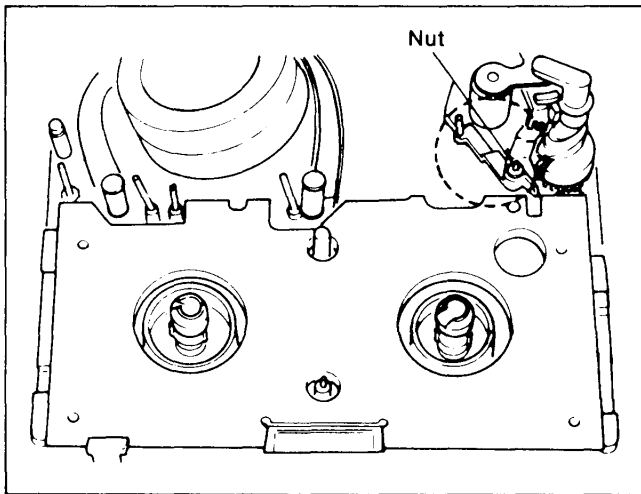

Figure M8
3. Turn the Worm Shaft counterclockwise (loading direction) until the mechanical condition becomes as shown in Figure M8.